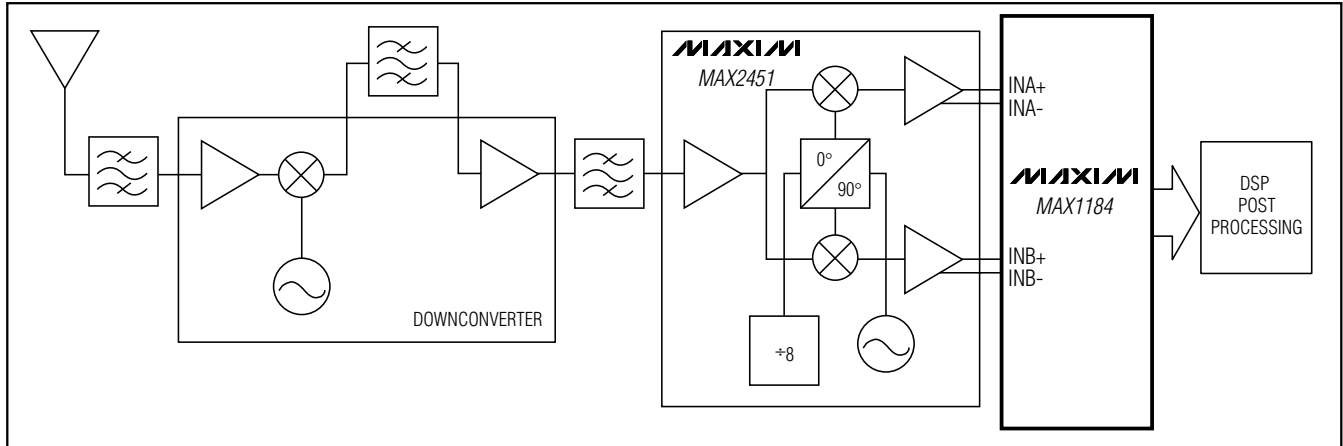

Figure 8. Typical QAM Application, Using the MAX1184
The most frequently used modulation technique for digital communications applications is probably the quadrature amplitude modulation (QAM). Typically found in spread-spectrum-based systems, a QAM signal represents a carrier frequency modulated in both amplitude and phase. At the transmitter, modulating the baseband signal with quadrature outputs, a local oscillator followed by subsequent up-conversion can generate the QAM signal. The result is an in-phase (I) and a quadrature (Q) carrier component, where the Q component is 90 degree phase-shifted with respect to the in-phase component. At the receiver, the QAM signal is divided down into its I and Q components, essentially representing the modulation process reversed. Figure 8 displays the demodulation process performed in the analog domain, using the dual matched 3V, 10-bit ADC (MAX1184), and the MAX2451 quadrature demodulator to recover and digitize the I and Q baseband signals. Before being digitized by the MAX1184, the mixed down-signal components may be filtered by matched analog filters, such as Nyquist or pulse-shaping filters, which remove any unwanted images from the mixing process, thereby enhancing the overall signal-to-noise (SNR) performance and minimizing intersymbol interference.